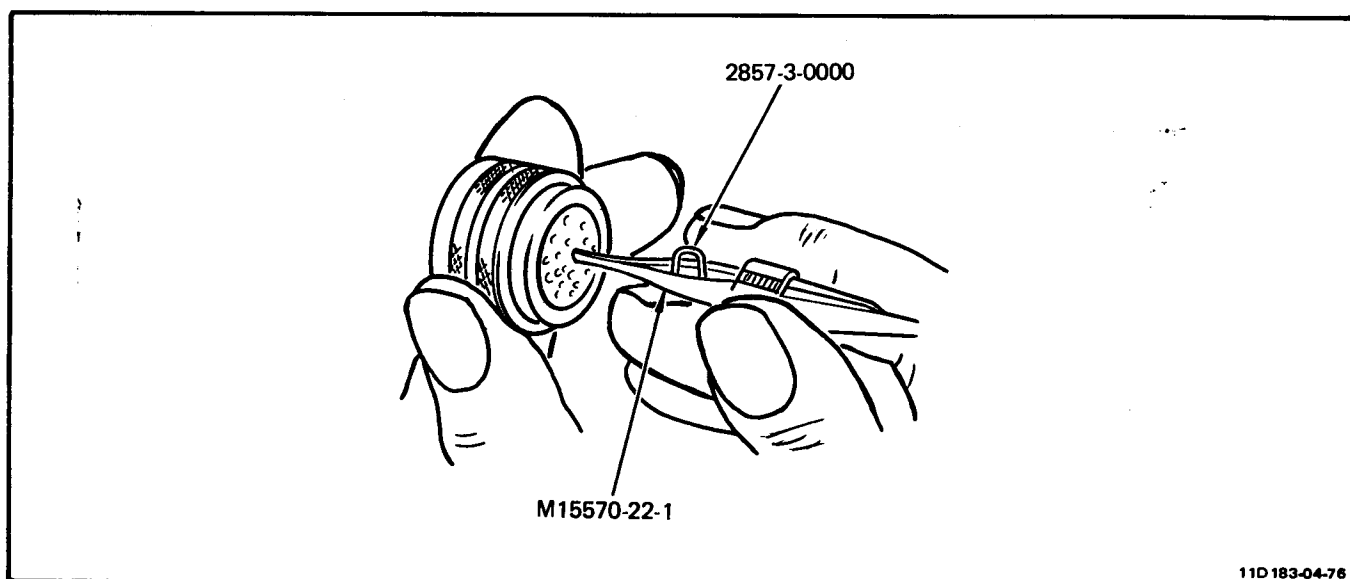

Figure 11-73A. 202-26233 and 202-26236 Series Connectors - Contact Pin Removal Without Wire Attached
1. Slide extraction tool over wire and into rear (7) of connector body. Push tool slowly into connector body until a positive resistance is felt. At this time, contact retaining clip is released.
**11-176A. Pin Contact Removal Without Wire Attached.** (See figure 11-73A.)